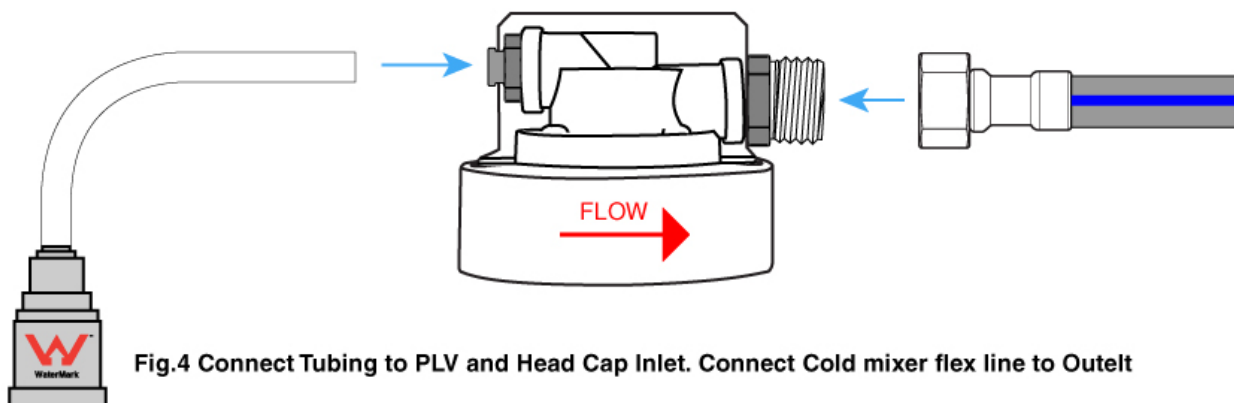

Fig.4 Connect Tubing to PLV and Head Cap Inlet. Connect Cold mixer flex line to Outelt
- c) Measure & cut the required length of 3/8" tubing to fit between the PLV and the Head Cap Inlet. Firmly insert the tubing into the PLV and the Head Cap Inlet. Re-Connect the Cold-Water Flex Hose from the mixer tap to the Stainless-Steel Fitting installed in the Head Cap Outlet as shown in Fig.4.